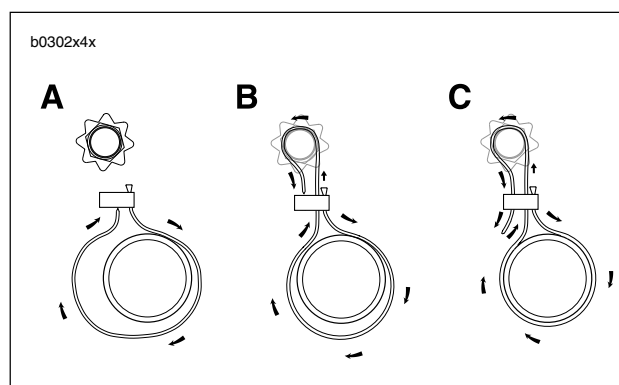

Figure 4-20. Cable Strap
2. See Figure 4-20. Secure adjuster to frame with a figure-8 cable strap.